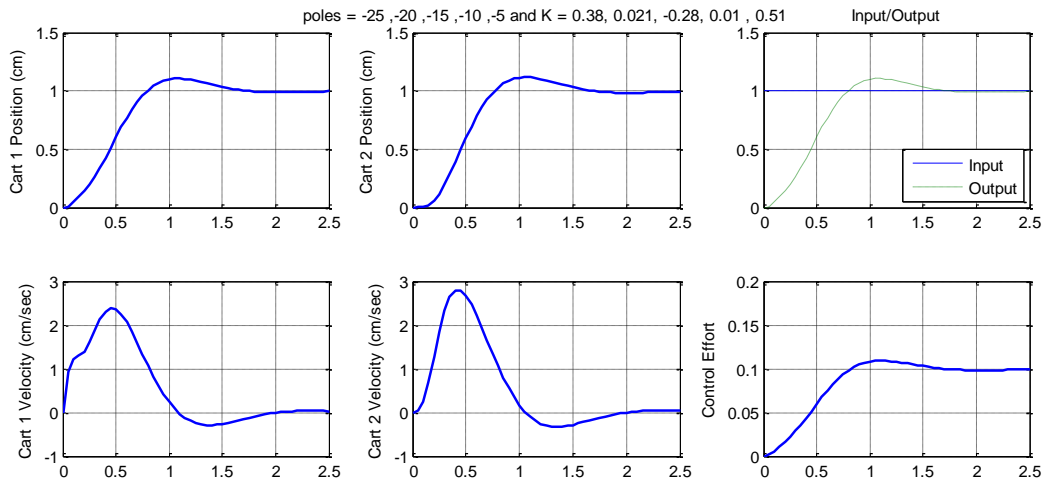

Figure 7: Improved state feedback control of a 2DOF rectilinear system with bad data
- 9) The benefit of integral control is that this bad model can still be designed to improve the response by increasing the integral controller gain. Set the poles to -5, -10, -15, -20, and -25 and run the simulation for 2s again. You should get results similar to those in Figure 7. **If your results agree, remove the line $A = 0.75 \cdot A$ from your code.**